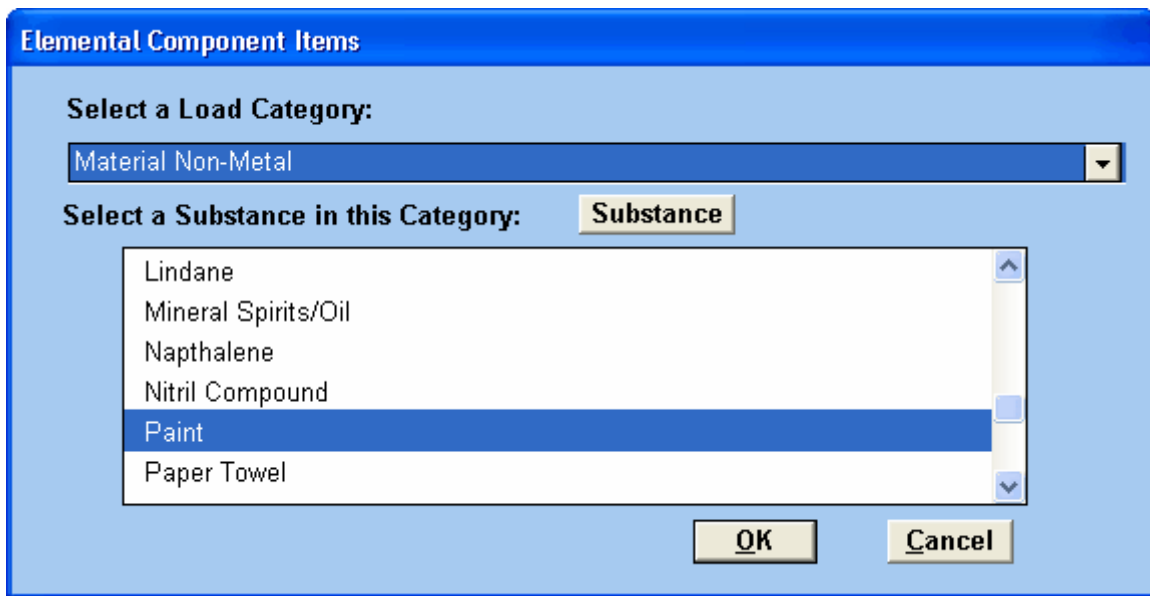

Figure 27: A listing of all the Load Category - Substance available in LCAPIX library.
12. Choosing **ADD ITEM** will spawn a window listing all the Load Category substances that are present in the LCAPIX database as shown in Figure 27. First select the category from the drop down menu, **Material Non-Metal**. Then click the **SUBSTANCES** button for a list of all substances in that category. Highlight the choice **Paint** and choose **OK**.
14. To add the next Load Category - *Substance* "**Energy Renewable - Electrical**" click on **NEW**. It will lead back to the list in Figure 27, from which use the **UP ARROW**, **DOWN ARROW**, **PAGE UP**, or **PAGE DOWN** on the keyboard to navigate and select "**Energy Renewable - Electrical**."
16. To add the next Load Category - *Substance* "Energy -Gas" click on **NEW**. It will lead back to the list in Figure 27, from which use the **UP ARROW**, **DOWN ARROW**, **PAGE UP**, or **PAGE DOWN** on the keyboard to navigate and select "**Energy -Gas**."
18. To add the next Load Category - *Substance* "Emission - Industrial Waste" click on **NEW**. It will lead back to the list in Figure 27, from which use the **UP ARROW**, **DOWN ARROW**, **PAGE UP**, or **PAGE DOWN** on the keyboard to navigate and select "**Emission - Industrial Waste**."